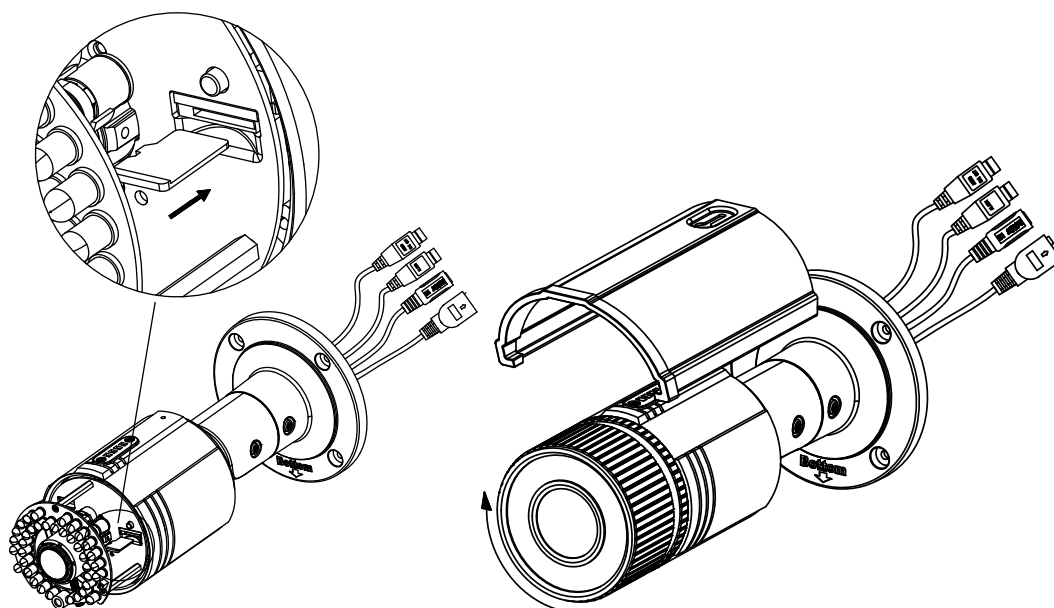

Figure 6-26 Install the SD Card
5. Rotate the front cover clockwise to install the sun shield according to the arrow direction as shown in Figure 6-26(right).